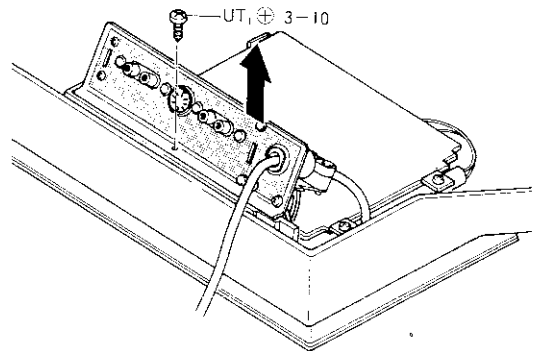

Fig. 5
- 1) Remove mounting screw. (Refer to Fig. 5)